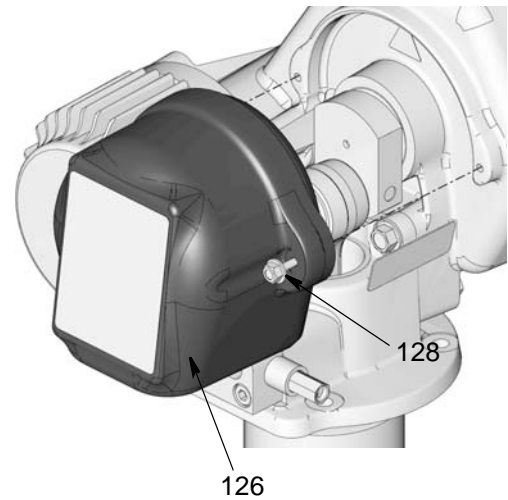

FIG. 19
5. Loosen bolts (128) and remove cover (126) from Dyna-Star pump (FIG. 19).